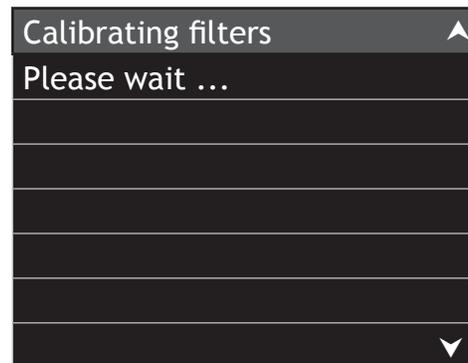
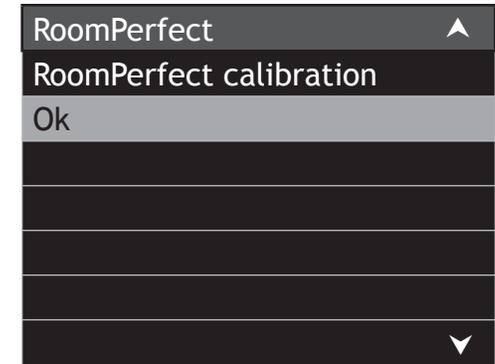

Figure 43
Figure 44
12. It will take several minutes to calibrate the filters for each of the Loudspeakers in the system. Refer to figure 43. When the filters have been set, the On-Screen will indicate “RoomPerfect calibration”. Refer to figure 44. Press the SELECT Push-button to exit RoomPerfect. Press the SETUP Push-button to return to the previous Menu or